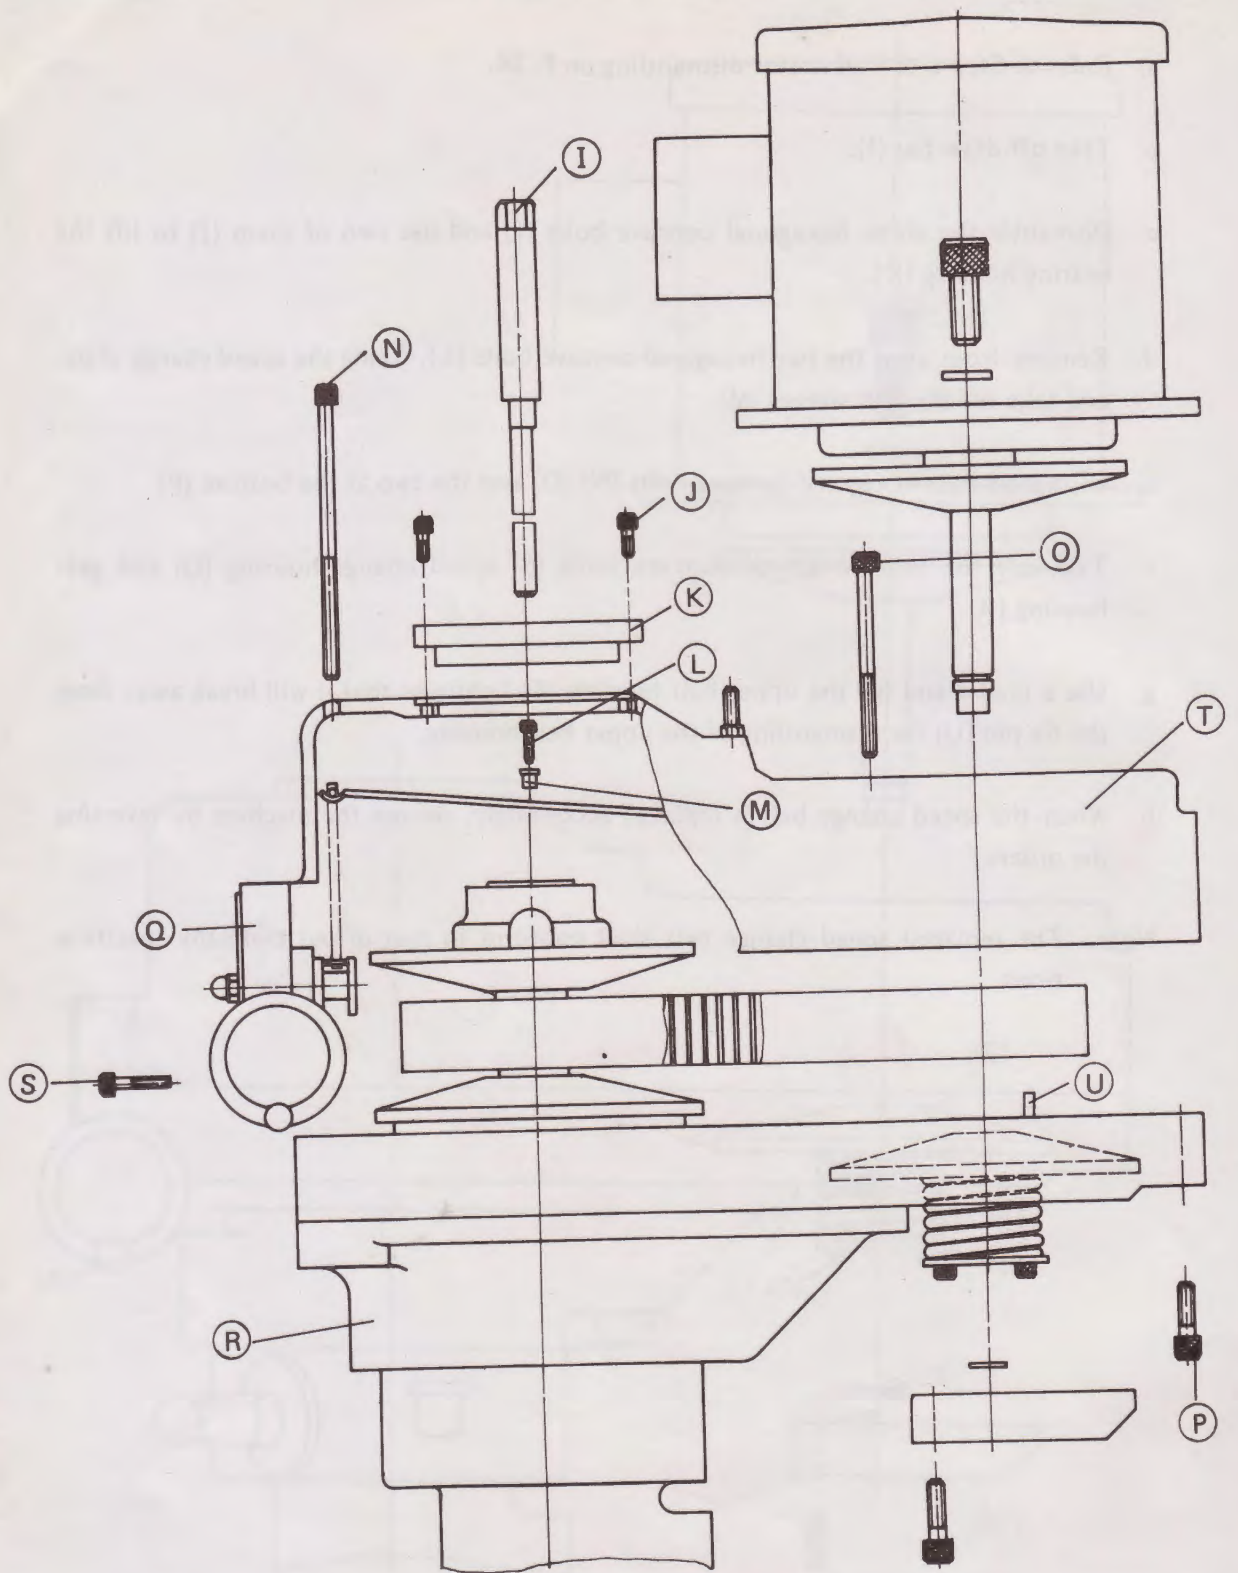

Figure 26
(2) Replacement of Speed Change Belt (as shown in Figure 26):
- b. Take off draw bar (I).
- c. Dismantle the three hexagonal concave bolts (J) and use two of them (J) to lift the bearing housing (K).
- d. Remove from atop the two hexagonal concave bolts (L), fixing the speed change plate, and take off the bolt sleeves (M).
- e. Dismantle four hexagonal concave bolts (N) (O) and the two at the bottom (P).
- f. Take off the two hexagonal concave bolts (S) speed change housing (Q) and gear housing (R).
- g. Use a mallet and hit the upper belt housing (T) lightly so that it will break away from the fix pin (U) for dismantling of the upper belt housing.